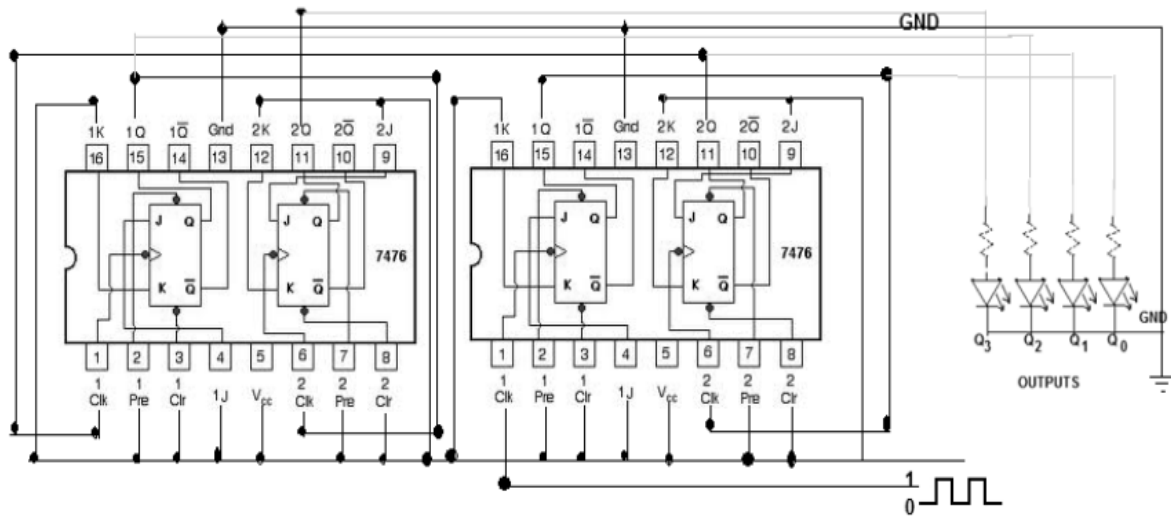

Figure 12.4 Circuit diagram (connection diagram) of 4-bit ripple counter using IC 7476
6. Make the connections as per the circuit diagram of the 4 bit ripple counter given in Figure 12.4.